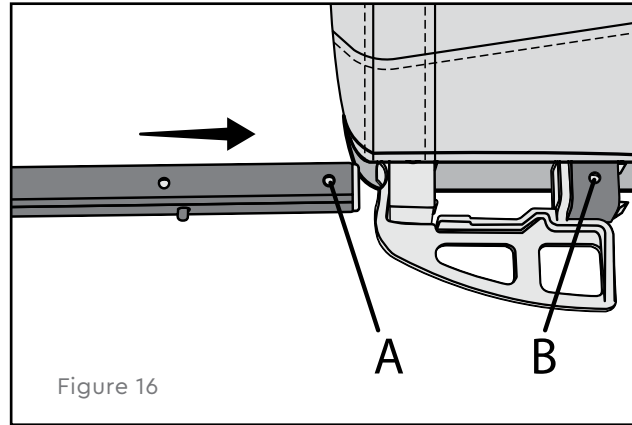

Figure 16
1. Depress detent and slide the tow bar receivers until hole A is aligned with hole B (Figure 16).